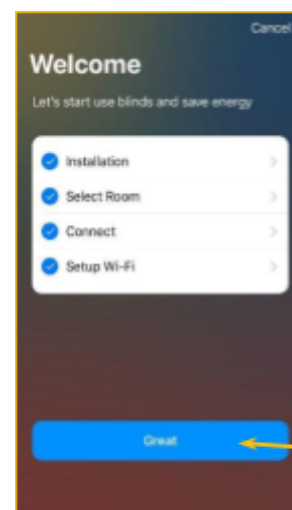

Figure 15
**10.4.2.** Proceed with the connection procedure (Fig. 15):